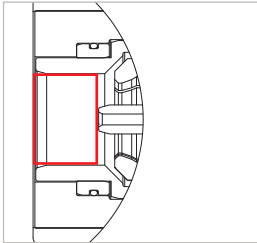

Figure 18
- ▶ Prior to inspection, it is essential to flush the following areas of the WEH® Product with compressed air or nitrogen (*Figure 18*):